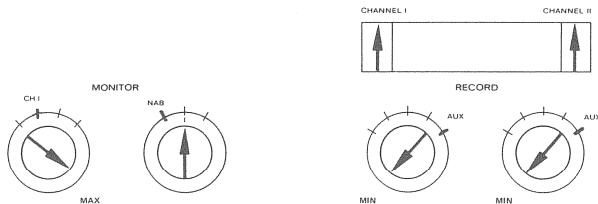

Fig. 6.3–53
- Set controls per fig. 6.3–53.